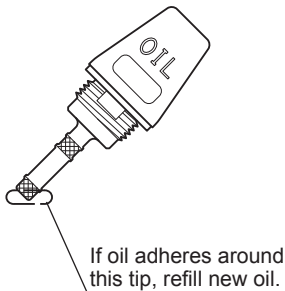
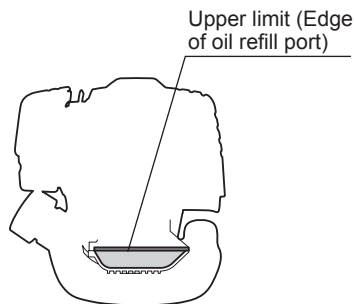

Fig. 1
Fig. 2
When the oil is in short in such a way that the oil gauge touches the oil only by its tip, in particular with the oil gauge remaining inserted in the crankcase without screwing-in (Fig. 1), refill new oil near the port (Fig. 2).
(1) Keep the engine level, and detach the oil gauge.
(2) Fill oil up to the edge of the oil refill port. (Refer to Fig. 2.)